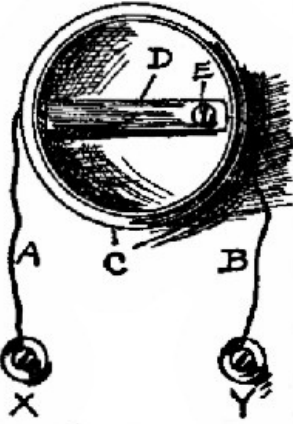
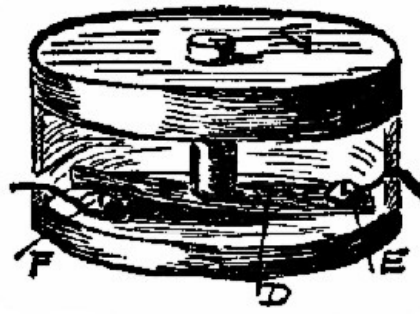

Fig. 15.
Fig. 16.
**46. Push-Button.** Fig. 15 and Fig. 16. By placing App. 29 in a box, we can make something
that looks a little more like a real push-button. Fig. 15 shows a plan with the box-cover removed, and Fig. 16 shows a view of the inside of it, a part of the box being cut away. *C*, Fig. 15, is a wooden pill-box 1 in. high and  $1\frac{3}{4}$  in. in diameter. Make a  $\frac{1}{4}$  in. hole in the cover of *C* for the "button," *G*, which is a short piece of  $\frac{1}{4}$  in. dowel. This rests upon a single thickness of tin, *D*, which is cut into a strip  $\frac{3}{8}$  in. wide and about  $1\frac{1}{4}$  in. long. In the bottom of *C* are two holes just large enough to allow the screws *E* and *F* to pass through. The wires, *A* and *B*, pass from the binding-posts, *X* and *Y*, through small holes burned through the sides of the box, and are fastened under the screw-heads. The whole box is screwed to the wooden base, which is  $3 \times 4 \times \frac{7}{8}$  in., by the screws, *E* and *F*. *D* should have enough spring in it to raise itself and *G* when the pressure of the finger is removed. The circuit will be closed only when you press the button.